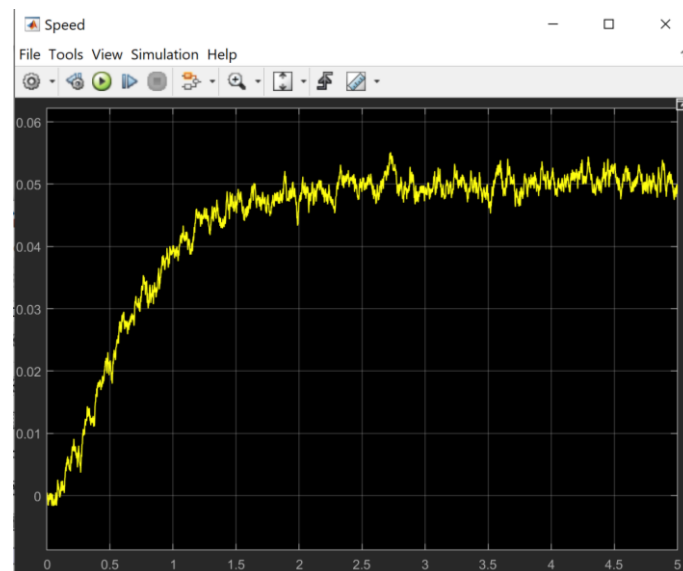
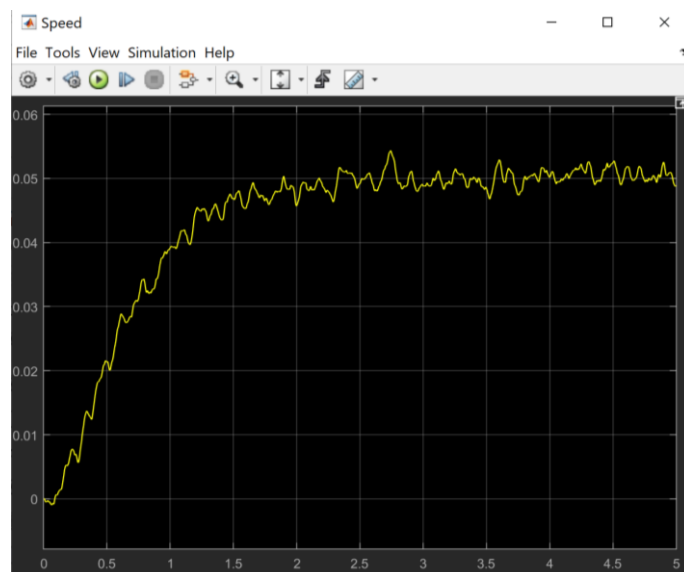

Figure 4.4: Step response of the Simulink model of the DC motor with white noise source and low-pass filter.
Figure 4.8: Step response of Simulink model with Butterworth filter.
Save your file, run the simulation again, and the double click on the Scope to see the result, which should be similar to the following Figure 4.4.
Introducing the low-pass filter attenuates the measurement noise, as shown in Figure 4.4. However, the filter also affects the dynamics of the system by introducing a phase lag. To highlight this effect, modify the Simulink file `DCMotor2.slx` by adding the low-pass filter, as shown in the figure below, and save it as `DCMotor1a.slx`.
**Q 5** Upload the step response plot as in Fig. 4.4 on **Blackboard**
Run the simulation in DCMotor2b.slx, and then double click on the Scope to see the result, which should be similar to the following Figure 4.8. Compared to Figure 4.4, the Butterworth filter has reduced the high-frequency noise to a larger extent. Some low-frequency noise remains, however it can be further reduced by employing a smaller cut-off frequency.